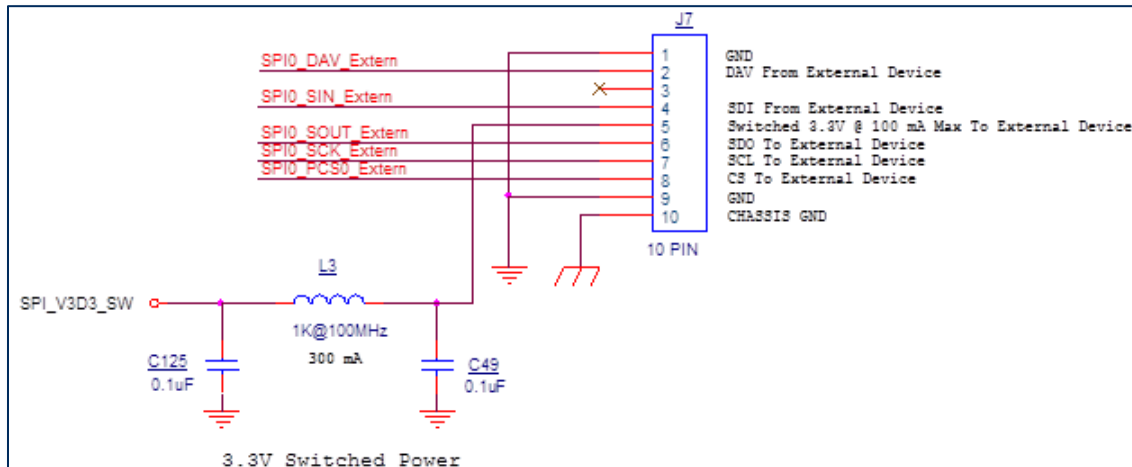

**Figure 2-4 Pinouts for mDynamo RS-232 Port J8**
**mDynamo Gen II** is configured with an RS-232 serial port, labeled **J8** and **RS-232** on the printed circuit board. As an alternative to USB the R232 port can be directly connected to a host's fully-powered RS-232 port to provide power to the device and bidirectional communication with the host. It is a 10-pin 1.25mm pitch Molex PicoBlade header designed to mate with Molex PicoBlade connector **51021-1000**. The dot on the printed circuit board indicates pin 1. Pinouts are shown in **Figure 2-4**.